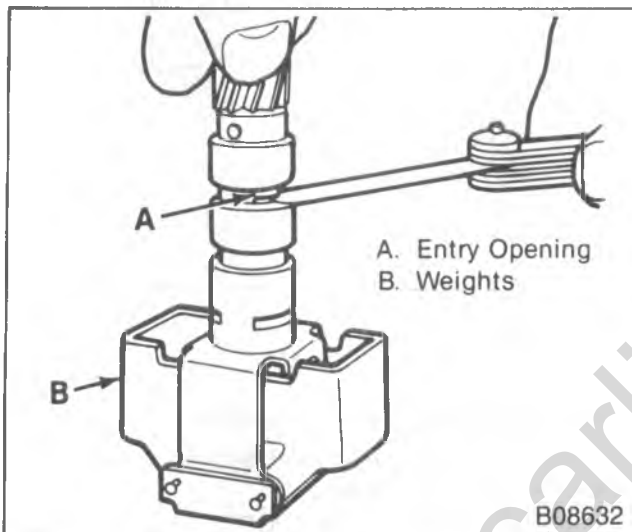

Figure 48 — Measuring the Governor Valve Entry Opening
- Valve entry opening. With the weights held all the way outward, the opening should be 5.1 mm (0.020 in.) (figure 48).